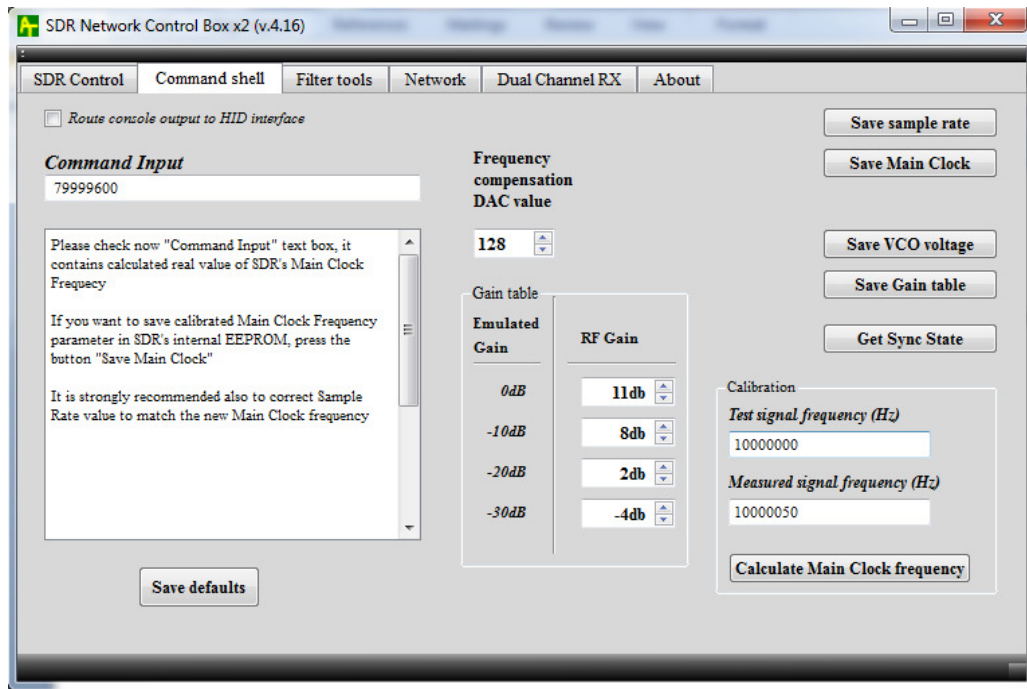

Figure 5
- In the text window “Test signal frequency” input the reference generator frequency value (see Figure 5).
- In the text window “Measured signal frequency” insert measured using SDR application waterfall value (see Figure 5).
- Press the button “Calculate Main Clock frequency” to calculate real main clock frequency value. The result is shown in the “Command input” window (see Figure 5).